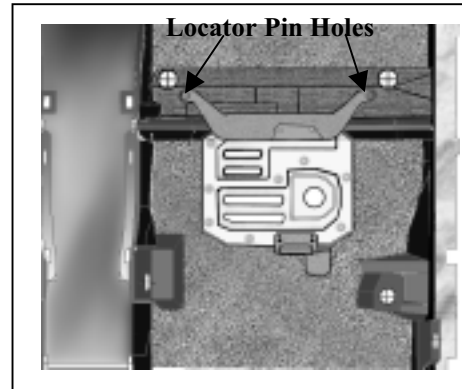

Figure F1
1. Place subwoofer in vehicle (Figure F1). Align front two holes in front bracket to front locator pin holes in vehicle seat floor.